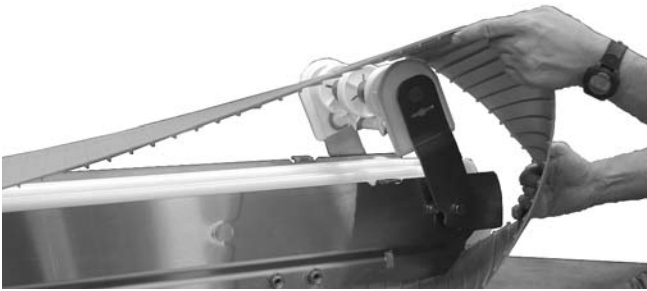

Figure 54
- Slide belt to one side of the conveyor and clean (**Figure 54**). Slide belt to the other side of conveyor and clean.